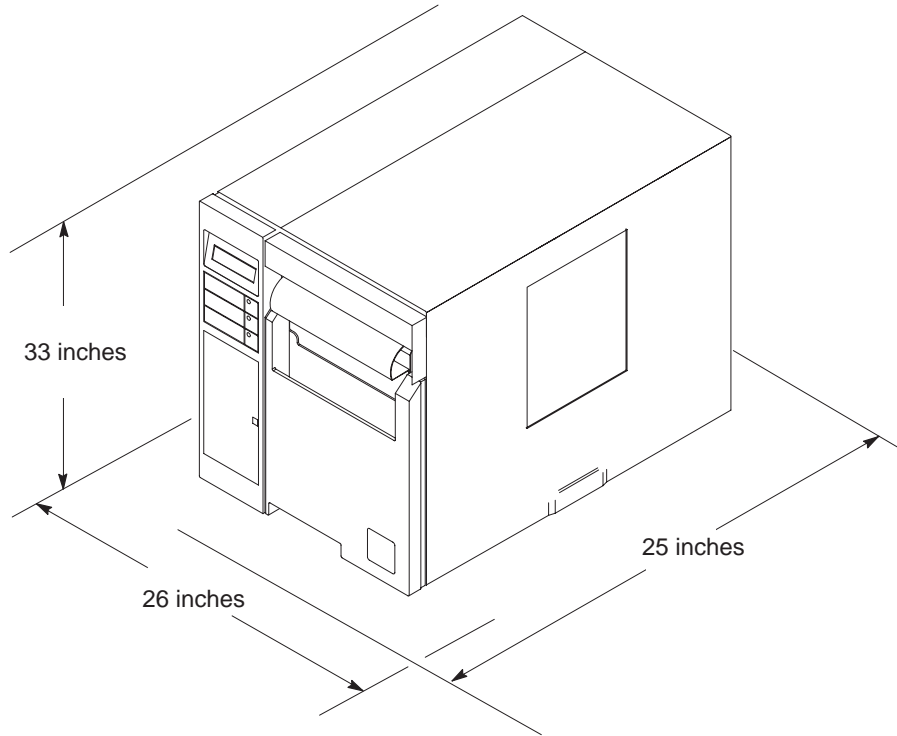
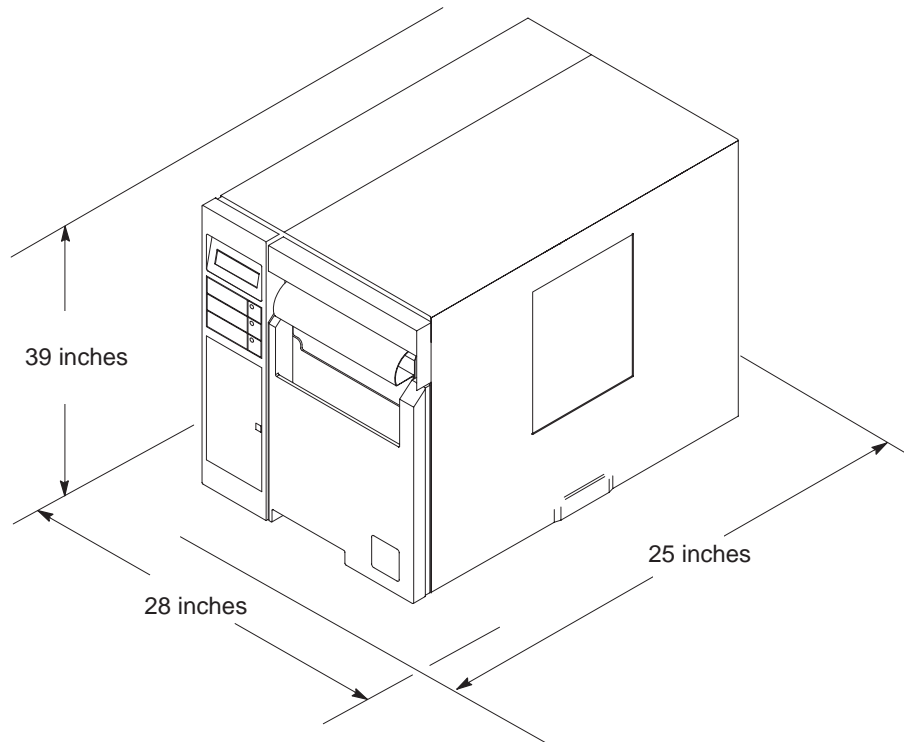

Figure 2-1. Clearance Requirements, T3306
Figure 2-2. Clearance Requirements, T3308
- The location should provide enough space for maintenance and for replacement of media and ribbon. (See Figure 2-1 and Figure 2-2.)
NOTE: The required printer clearance dimensions are shown in Figure 2-1 and Figure 2-2.